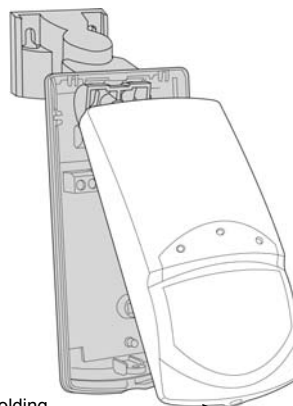

Fig.1
2. Insert wire through the bracket and holes "A" and "B". (See fig.1)